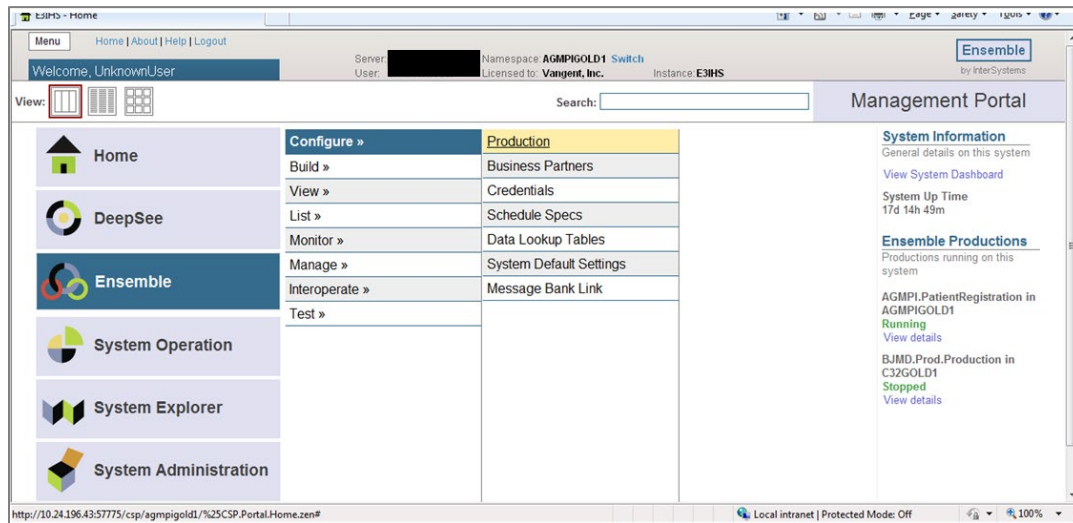

Figure 4-13: Production Configuration page
3. Click **Configuration** and then click on **Production**, as shown in Figure 4-13.